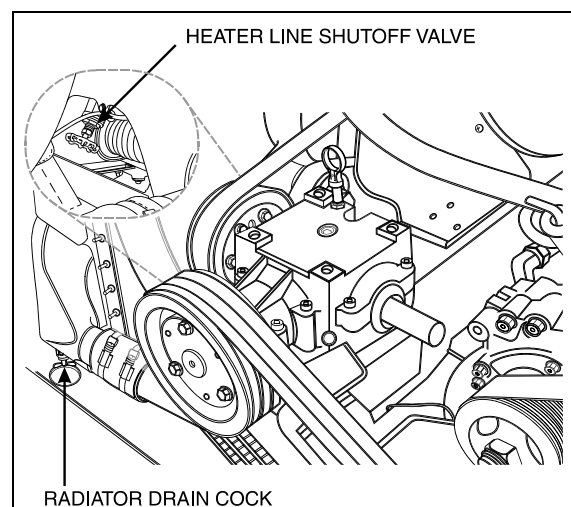

FIGURE 6: ENGINE COMPARTMENT 05078
Another valve is located in the engine compartment under the radiator fan gear box (Fig. 6).
5. Open the radiator drain cock (Fig. 6).